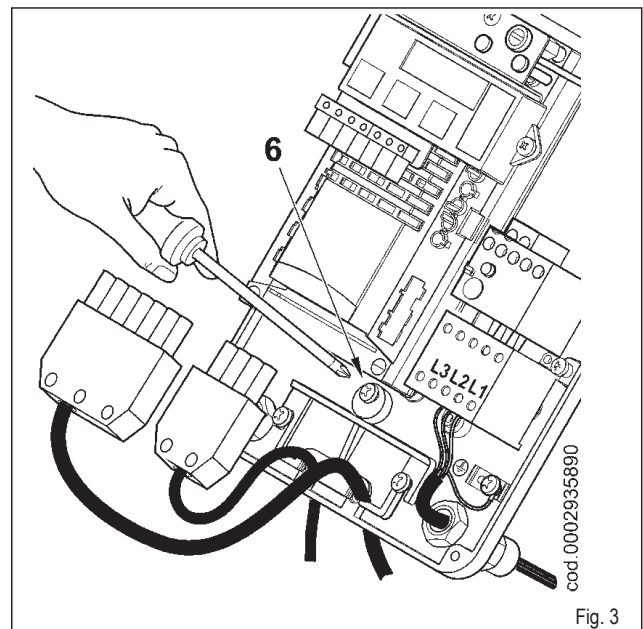

Fig. 3
- Reposition the cable float plate as in figure 3. Turn the cam (6) so that the float exerts sufficient pressure on the two cables, then tighten the screws that fasten the cable float. Finally, connect the two 7 and 4-pole plugs.
- Completely unscrew the nut (6) and tighten the screw (7), moving it forward inside the gas delivery connection (8) far enough to permit subsequent dismantling of the mixing unit. Slightly raise the gas delivery union (8) out of its housing (figure 3).